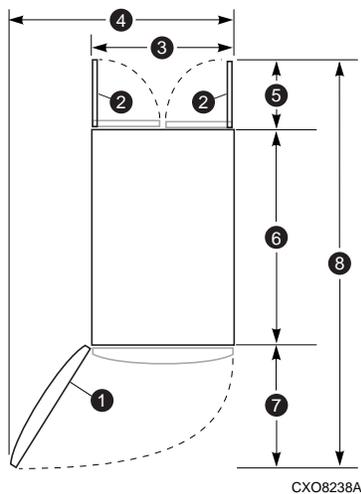

Figure 28 Single rack configuration floor space requirements
Each rack requires an area 600 mm (23.62 in) wide and 1000 mm (39.37 in) deep (see Figure 28).
3. Carefully move the rack to the installation area and position it to provide the necessary service areas (see Figure 28).